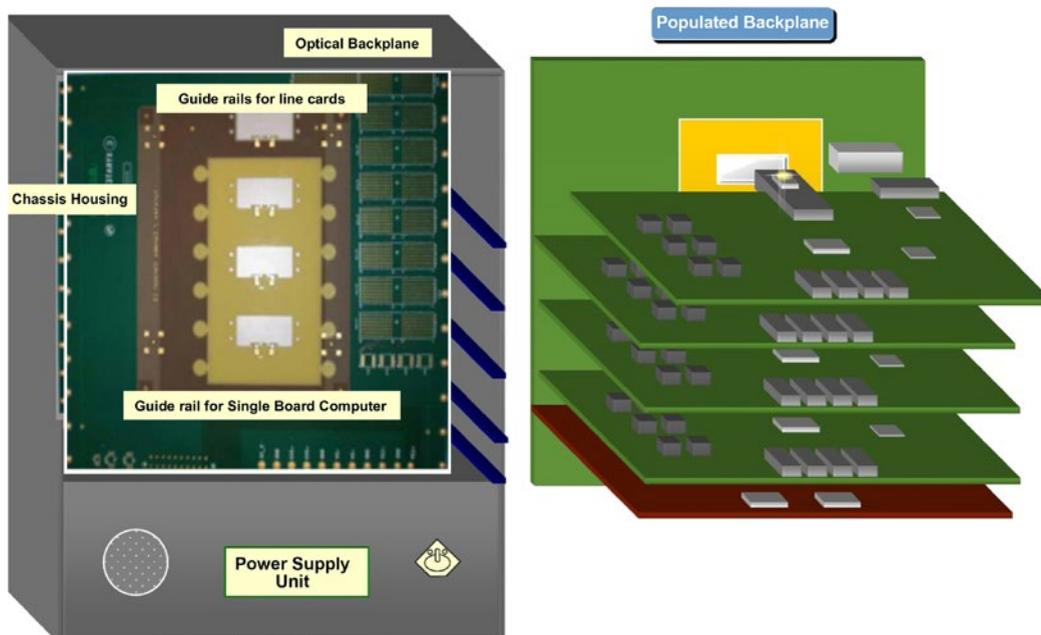

Figure 9. Demonstration of optical backplane and optical connector components.
- To design a commercial, low-cost, optical connector (dismountable, passive, self-aligning and mid-board) as the next stage from the prototype demonstrated in an earlier project (Storlite Project) (Figure 9)